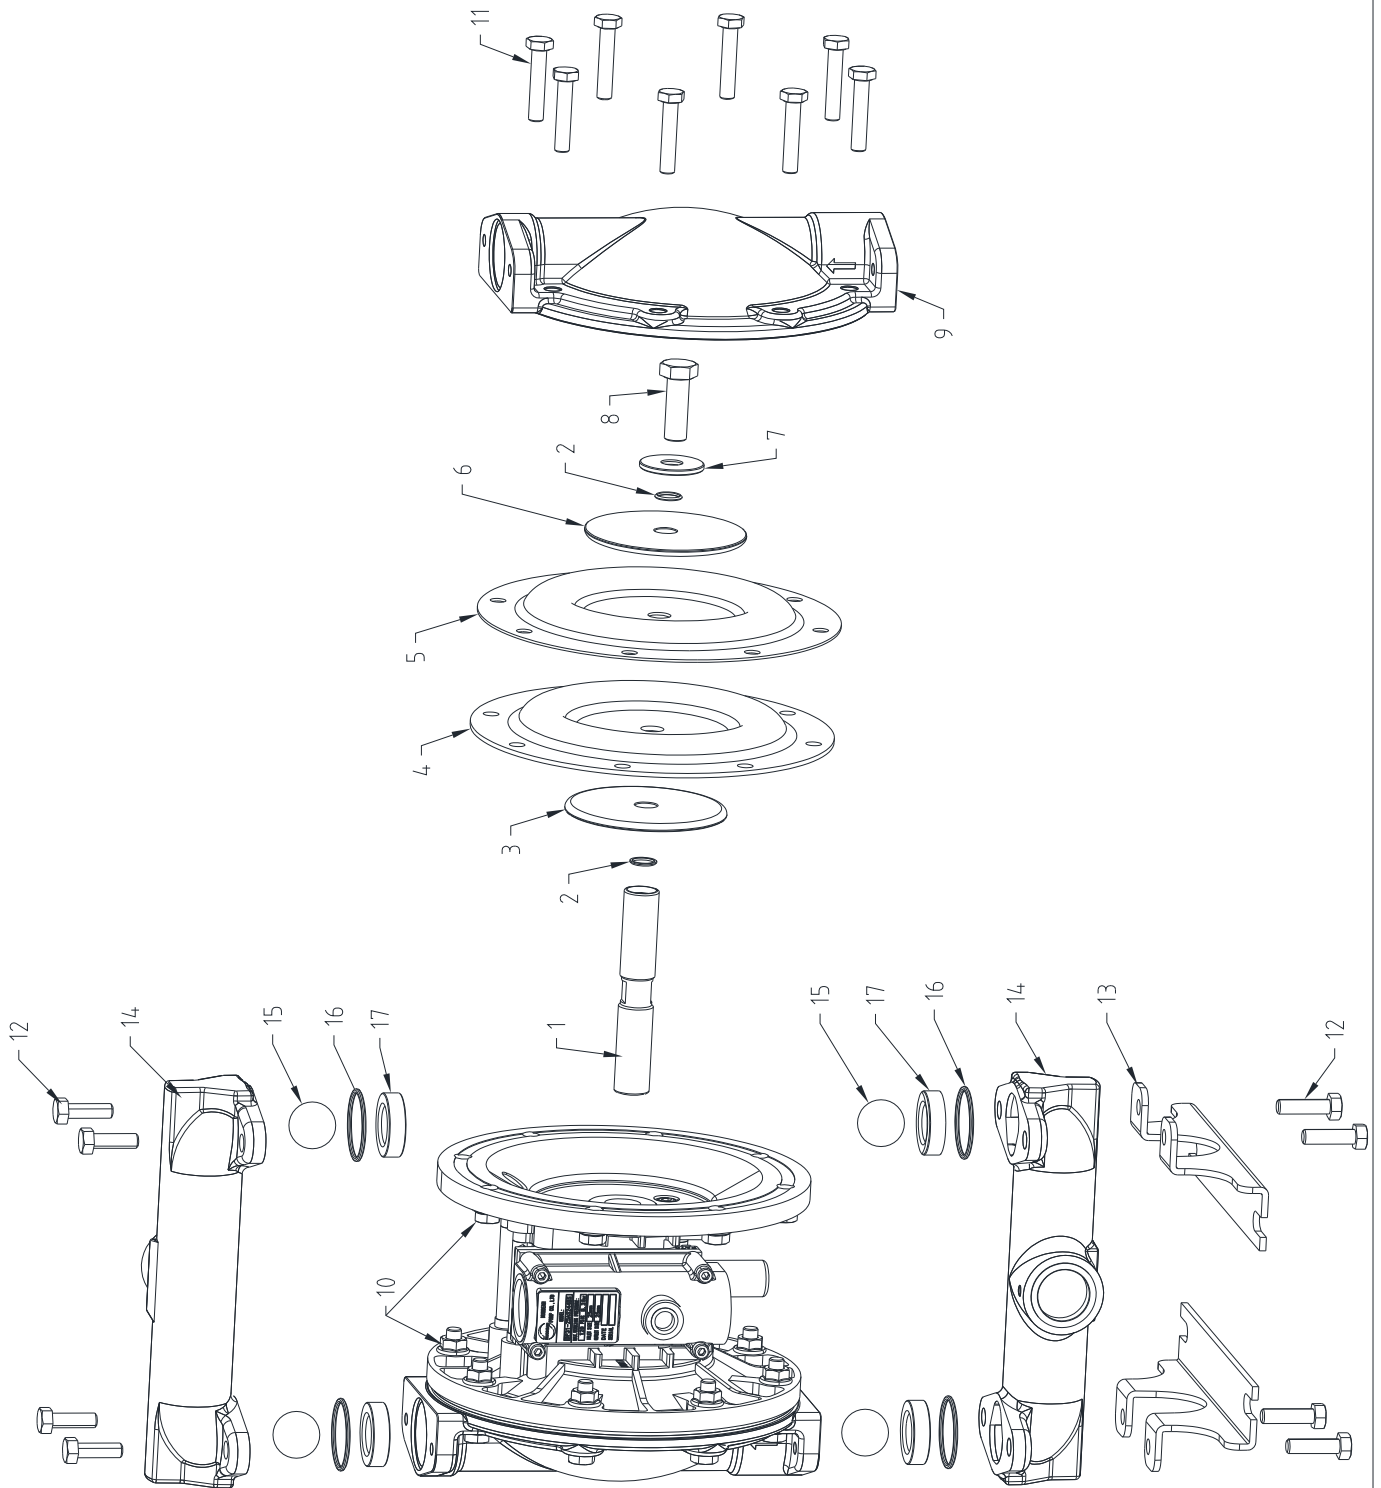

Figure 2
1. Remove the manifolds (14). See Figure 2.
2. Remove (15) balls, (16) O-rings, and (17) Seats. See Figure 2.
3. Remove the fluid caps (9). See Figure 2.
**NOTE:** Only PTFE diaphragm models use a primary diaphragm (5) and a backup diaphragm (4). See Figure 2.
4. Remove the (8) screws, (7) washers, (5) or (5/4) diaphragms, (3) washer, and (6) washer. See Figure 2.
5. Remove (2) "O" rings.
**NOTE:** Only PTFE diaphragm models use a primary diaphragm (5) and a backup diaphragm (4). See Figure 2